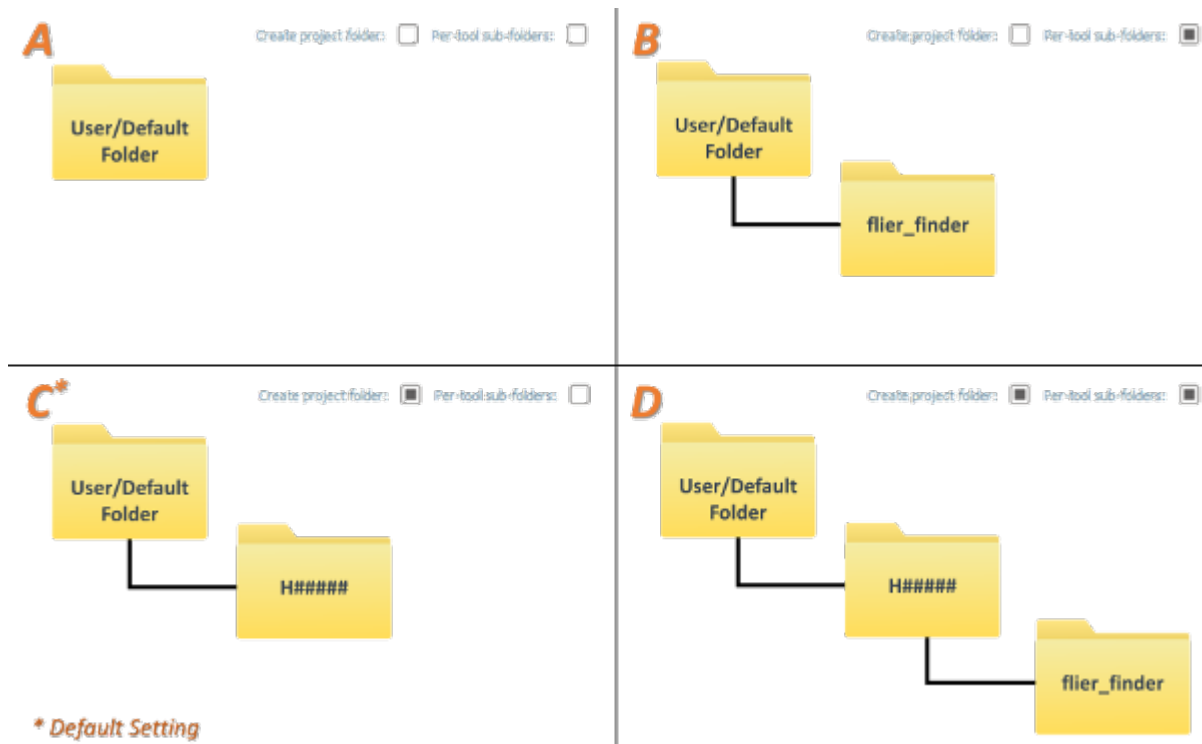

Fig. 2.4: The resulting folder structure based on the four available combinations of output flags.
- No flags set (see Fig. 2.4, pane A). The outputs are stored directly under the default or user-defined location.
- Only the **Per-tool sub-folders** flag set (see Fig. 2.4, pane B). The outputs are stored in a tool-specific sub-folder (in the default or user defined-location).
- Only the **Create project folder** flag set (see Fig. 2.4, pane C). The outputs are stored in a survey folder (in the default or user defined-location). *This is the default setting.*
- Both flags set (see Fig. 2.4, pane D). The outputs are stored in tool-specific sub-folders in a survey folder (in the default or user defined-location).